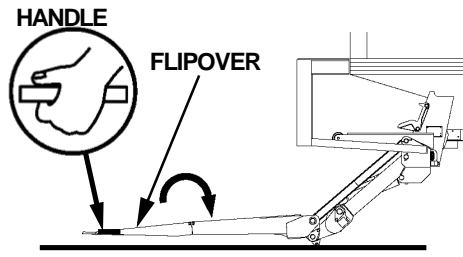
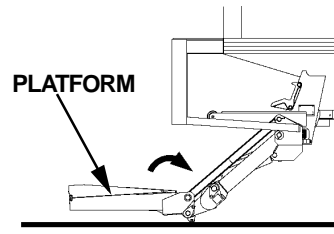
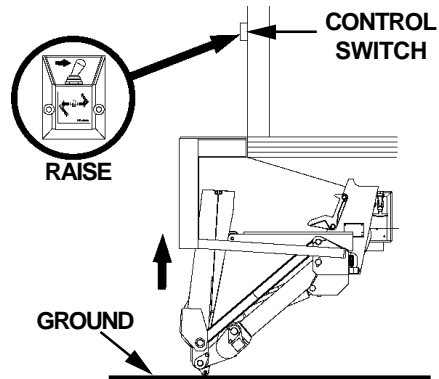

FIG. 11
FIG. 12
FIG. 13
7. **RAISE** the Flipover 2" above the ground by pushing the Control Switch to the **RAISE** position (**FIG. 9**). Use handle to manually fold Flipover (**FIG. 11**). Fold the Platform (**FIG. 12**) against Opener (**FIG. 13**).
8. Raise the Liftgate by pushing the Control Switch to the **UP** position as shown in **FIG. 13**. Wait 1 second after Liftgate is all the way up to release Control Switch.